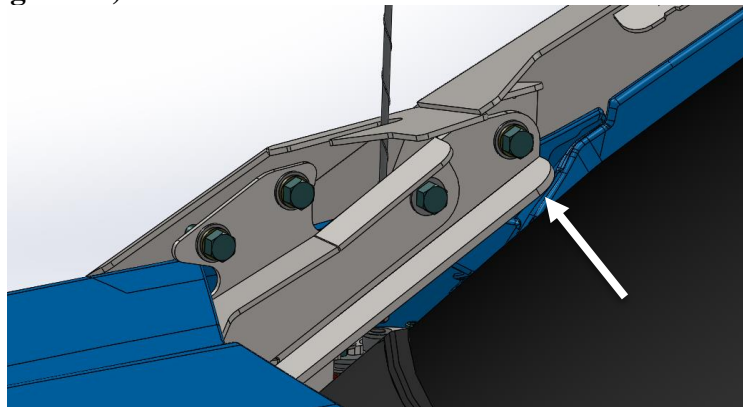

Figure 18
2. Loosely install the 3/8"-16 hex bolt, zinc lock washer and zinc flat washer through the lower hinge bracket and into the arm securing the ViCowl from falling lower on the vehicle. **(Figure 18)**